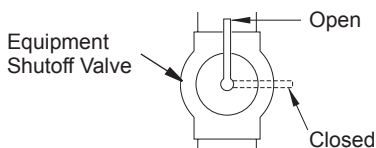

Figure 13 - Equipment Shutoff Valve
1. Close equipment shutoff valve (see Figure 13).
1. Open equipment shutoff valve (see Figure 13).